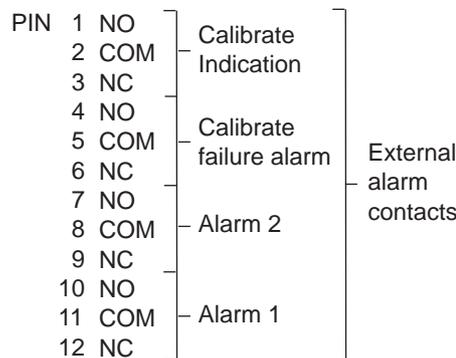

**Fig. 2.5 Electrical Connections at Transmitter Unit**
#### 2.4.2 Transmitter Unit (Fig. 2.5)
- Noting that the screening braid terminates at the cable gland and is prepared as shown in Fig. 2.5, prepare the cable end and attach it to the terminal block TB2. The terminal block may be pulled off the pins on the board if required.
**Caution.** The terminal block for Sensor Unit connection has eight terminals, whereas there are 12 pins on the board. Ensure that the correct eight pins are chosen for connection; these are marked with a separate 'box' – see the following text and Fig 2.5.
Connect the pump supply to the terminal block as shown in Fig. 2.5.
this must be set to the correct value before connecting the instrument to the supply – see Fig. 2.5.
The location of the pump on/off switch is shown in Fig. 2.5.